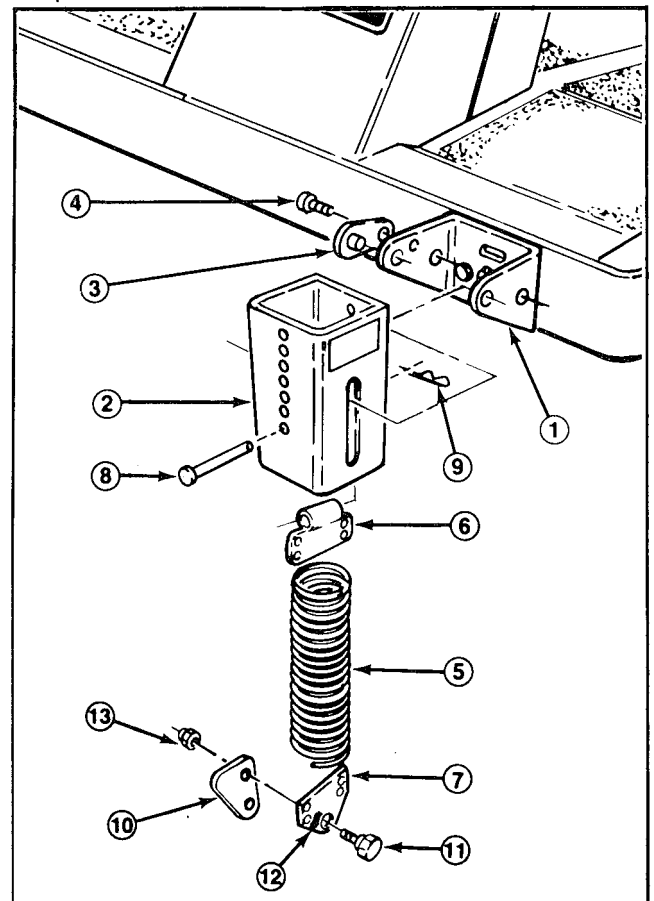

Figure 11
4. Thread the top extension spring coil into the top spring end holes and the bottom extension spring coil into the bottom spring end holes (Fig. 11).
5. Mount knee link to lower spring end with wide part of knee link pointing forward and spring end stop pointing forward. Secure knee link to outer to outer side of spring end with a shoulder bolt and locknut (Fig. 11, 12).
7. Align slotted holes in the spring cover (slot toward the bottom) with the mounting bracket holes. Insert lock pin assemblies into the bracket holes and secure each to the bracket with self-tapping screws (Fig. 11). Torque the screws to 20 ft-lb.
hole matches the highest height setting, bottom cover hole the lowest, etc. Align the top spring end hole with the selected spring cover holes and insert the clevis pin to secure the spring inside the cover (Fig. 11). Secure clevis pin with a hair pin cotter.